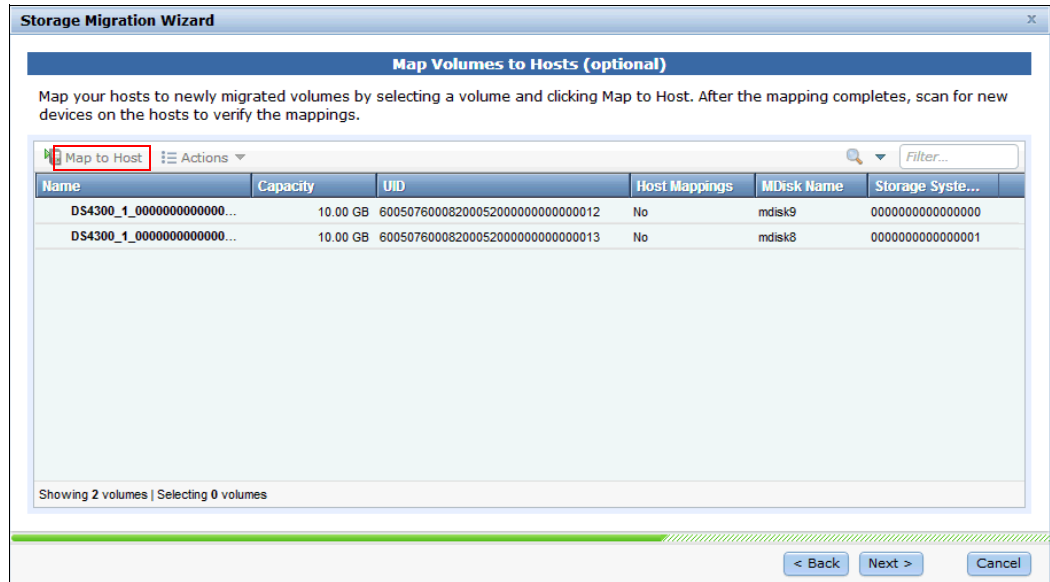

Figure 7-15 Storage Migration Wizard step 6 - Map to host
- Click **Map to Host** for making the disks available to the host during migration as shown in Figure 7-15.